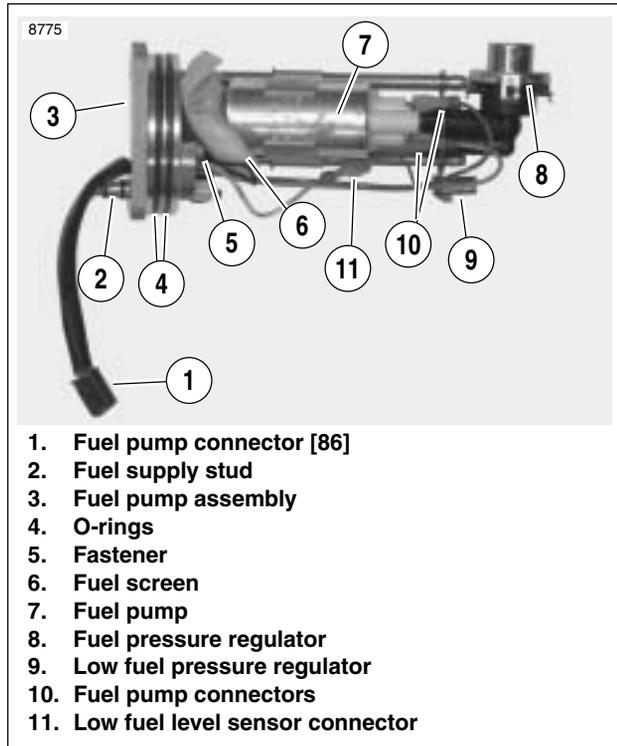
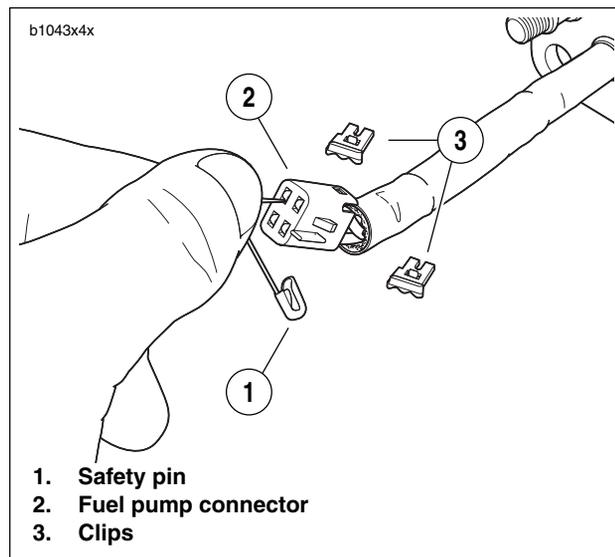
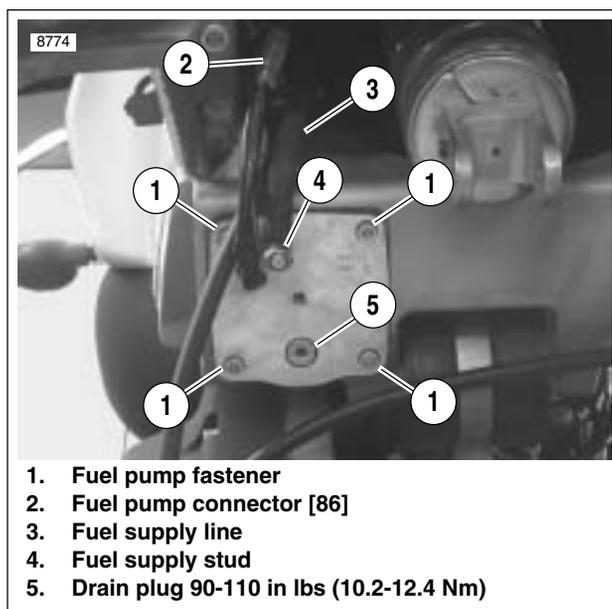

Figure 4-55. Fuel Pump Assembly (left side)
Figure 4-59. Fuel Pump Connector Disassembly
Figure 4-61. Fuel Pump Installation
2. See Figure 4-55. Pry four tabs of clip holding fuel pressure regulator (8) in place. Detach regulator from regulator housing.
4. See Figure 4-55. Disconnect fuel pump connectors (10) and low fuel level sensor connector (11).
6. Pry fuel screen (6) from fuel pump (7).
11. See Figure 4-55. Connect low fuel level sensor wiring (11).
12. Connect fuel pump connectors (10). Connectors are two different sizes.
4. See Figure 4-55. Disconnect fuel pump connector (10) and low fuel level sensor connector (11).
- a. See Figure 4-59. Remove connector clips (3).
- b. Insert push pin/safety pin (1), into connector as shown.
8. See Figure 4-55. Remove screw (5).
11. See Figure 4-55. Insert **new** fastener (5), through ground wire terminal and secure to fuel pump assembly. Tighten to 18-22 **in-lbs** (2.0-2.5 Nm).
16. See Figure 4-55. Connect low fuel level sensor connector (11).
17. Connect fuel pump connectors (10). Connectors are two different sizes.
1. See Figure 4-55. Replace o-rings (4). Lubricate **new** o-rings with **clean** engine oil.
2. Install **new** o-rings on fuel supply stud (2). Larger o-ring is located in groove closer to fuel pump.
3. See Figure 4-61. Insert fuel pump into frame until resistance is felt.
4. Insert four screws (1) through fuel pump and into frame.